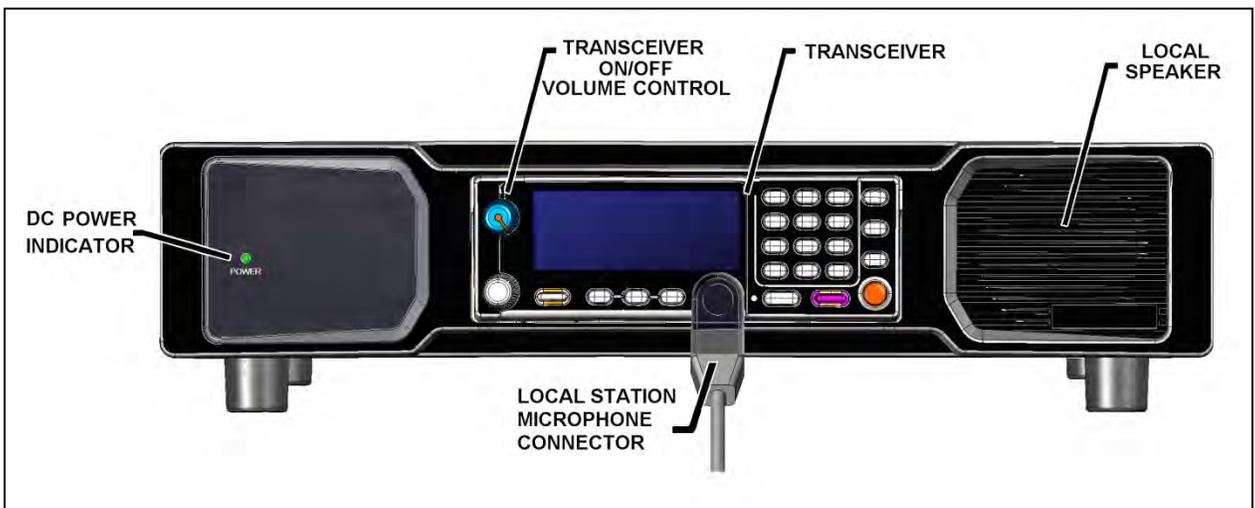

Figure 3-1: Front Panel Features – Local Control Station
The Local Control Station (shown in Figure 3-1), model CT-013892-001, includes front panel controls, indicators, and other features. The following sub-sections provide general descriptions of each feature.
The transceiver’s microphone connector shown in Figure 3-1 is used for local control stations. Refer to Section 3.2.1 when connecting a microphone to a remote control station.
3. Turn on the transceiver's ON/OFF Power switch (refer to Figure 3-1).